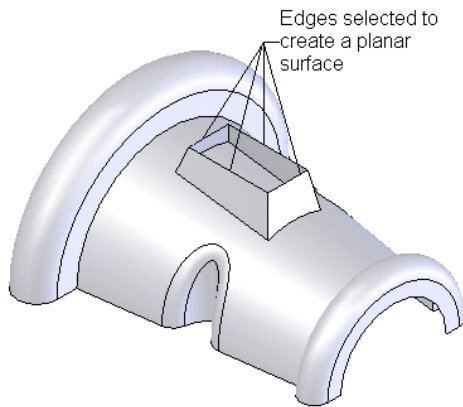

Figure 15-111 Edges selected to create the planar surface
the lofted feature, Figures 15-111 and 15-112.
2. Select the edges as shown in Figure 15-111 to create the planar surface.